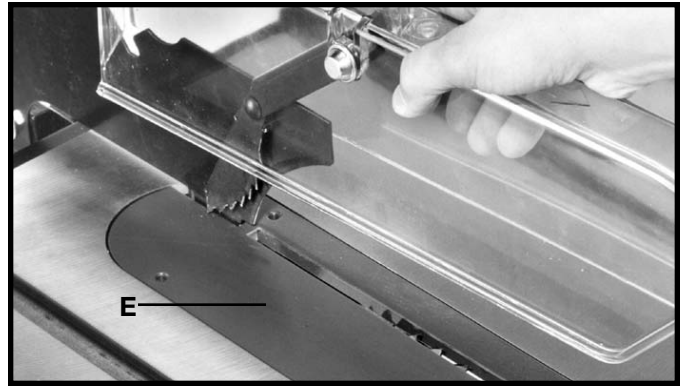

Fig. 27
13. Holding the clear blade guard, lower the saw blade and assemble the table insert (E) Fig. 27, into the opening on the saw table.